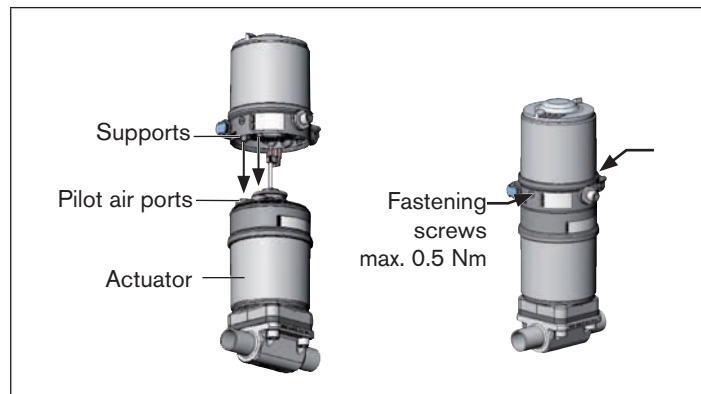

Fig. 6: Installation of control head, 21xx series
2. the supports of the control head can be inserted into the pilot air ports of the actuator (see also "Fig. 6").